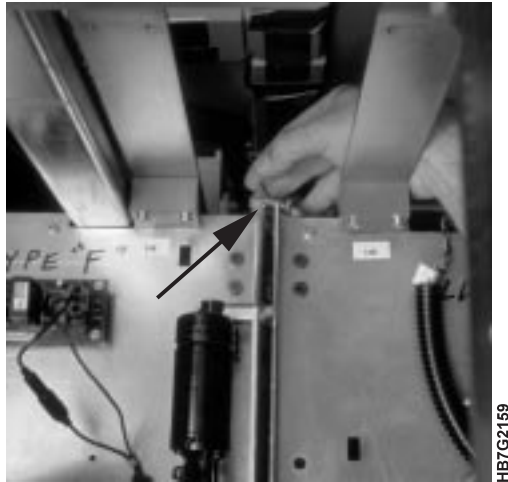

Figure 268. Unlatching the Top of the X and Y Towers
- 4 Unlatch the top of the print tower, as shown in Figure 268 on page 344, by pulling up on the latch located at the top center between the X and Y towers. Do this on both sides of the machine.